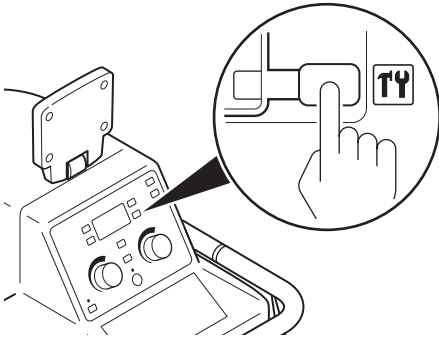

Figure 4 – To Access System Setup
3. From the control panel, push and hold the push button until the SYSTEM SETUP screen appears (Figure 4).